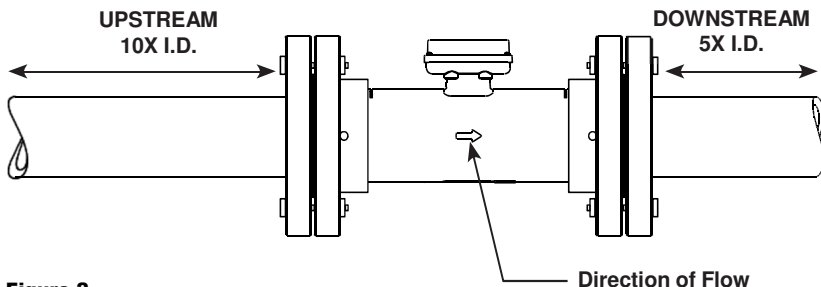

Figure 2
1. Plan to install turbine with a minimum straight pipe length as follows (see Figure 2):
- Upstream from the turbine, allow a minimum straight pipe length of (10) times the internal diameter of the turbine.
- Downstream from the turbine, allow a minimum straight pipe length of (5) times the internal diameter of the turbine.